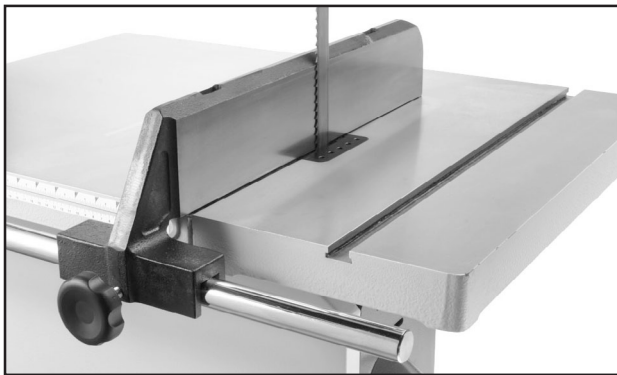

Figure 33. Example of fence flush with blade.
2. Place the fence flush against the bandsaw blade (**Figure 33**).